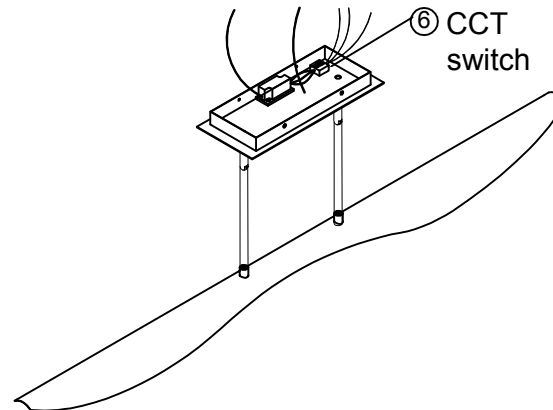

Fig.5
7. Select the desired color temperature by turning the CCT switch: 3000K, 3500K, 4000K.(Fig.5)